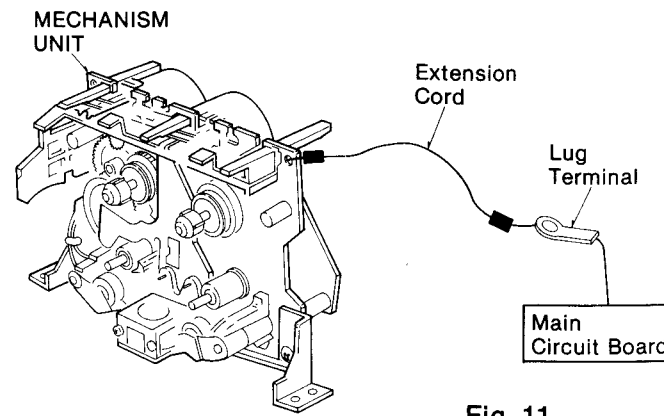

Fig. 11
- For repair, measurement or adjustment with the mechanism removed from the unit be sure to ground the lower base plate of the mechanism. For grounding, connect a extension cord to the mechanism's lower base plate and the lug terminal from amplifier printed circuit board. Without grounding, the mechanism does not operate properly. (Refer to Fig. 11).